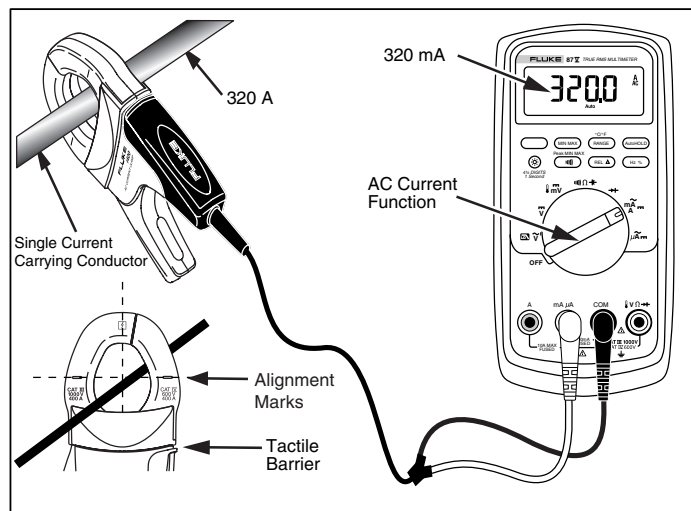

Figure 1. i400 Setup
- Do not hold the Current Clamp anywhere beyond the tactile barrier, see Figure 1.
To use the i400, (refer to Figure 1):
3. Clamp the i400 around the current-carrying conductor to be measured. Make sure the jaws are tightly closed around the conductor. The Current Clamp is designed for highest accuracy when the conductor is centered on the jaw's alignment marks, see Figure 1.
To avoid shock or personal injury, keep fingers behind the tactile barrier, see Figure 1.